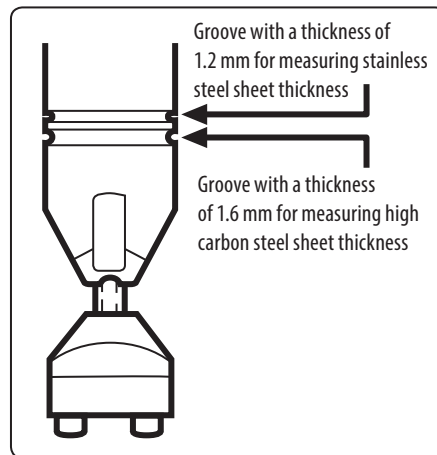

Fig. 2
- Prior to starting nibbling, it is necessary to measure the thickness of the sheet metal to ensure that the power tool is not overloaded. Excessive load will damage the power tool. Sheet metal specifications are provided in the technical specifications. For this purpose, it is possible to use the sheet metal measuring grooves (fig. 1, position 10) which are located on the die - see also fig. 2.